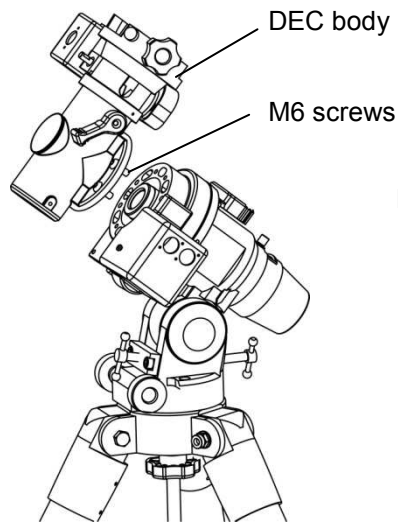

Fig 9
**1.7 Installing optional accessories to turn the EQM-35 PRO into the EQM-35 PRO light photographic traveling version (fig 9, 10, 11 and 12)**